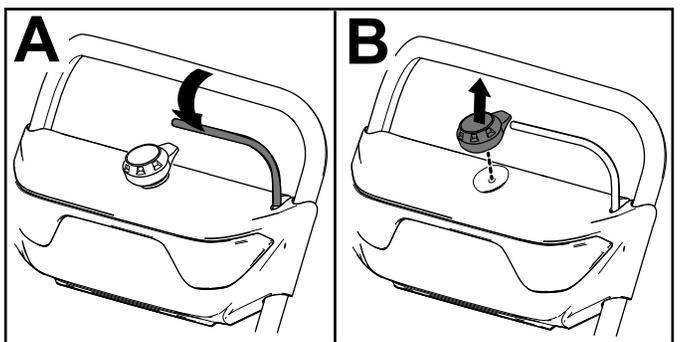

Figure 9
1. Release the bail (A of Figure 9).
2. Remove the electric-start button from the electric starter (B of Figure 9).